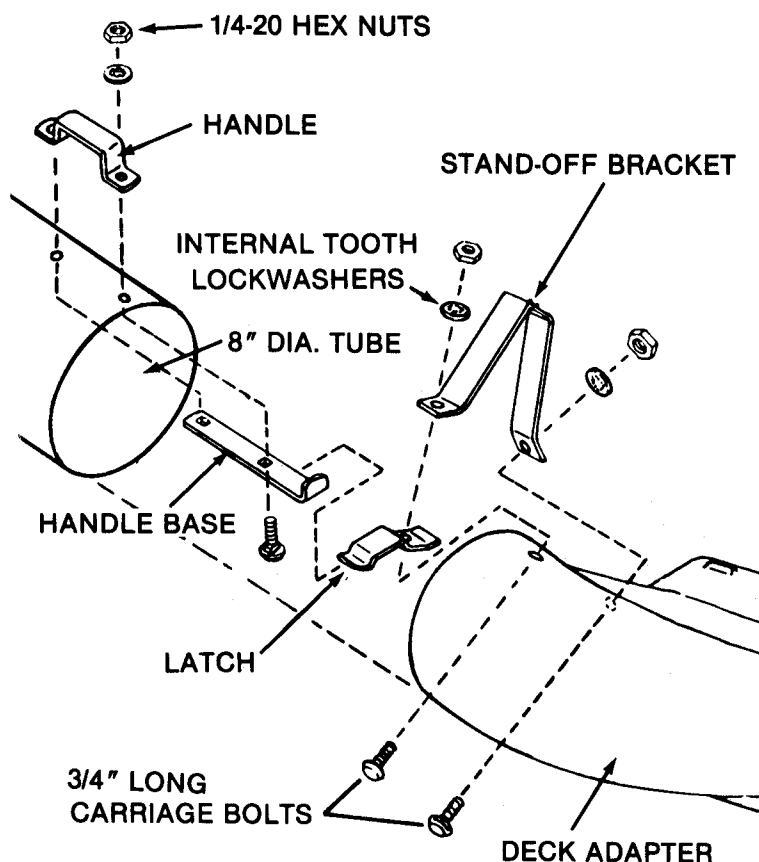

FIGURE 9 - TUBE HANDLE & BRACKET DETAIL
1. Assemble the tube latch and stand-off bracket to the adapter and secure with two of the 3/4" long carriage bolts (heads inside tube), 1/4" internal tooth lockwashers and 1/4" hex nuts as shown in figure 9.
2. Position the handle base inside the 8" diameter tube, and the handle on the outside, align holes and secure with two 3/4" long carriage bolts (heads inside), 1/4" internal tooth lockwashers and 1/4" hex nuts as shown in figure 9.